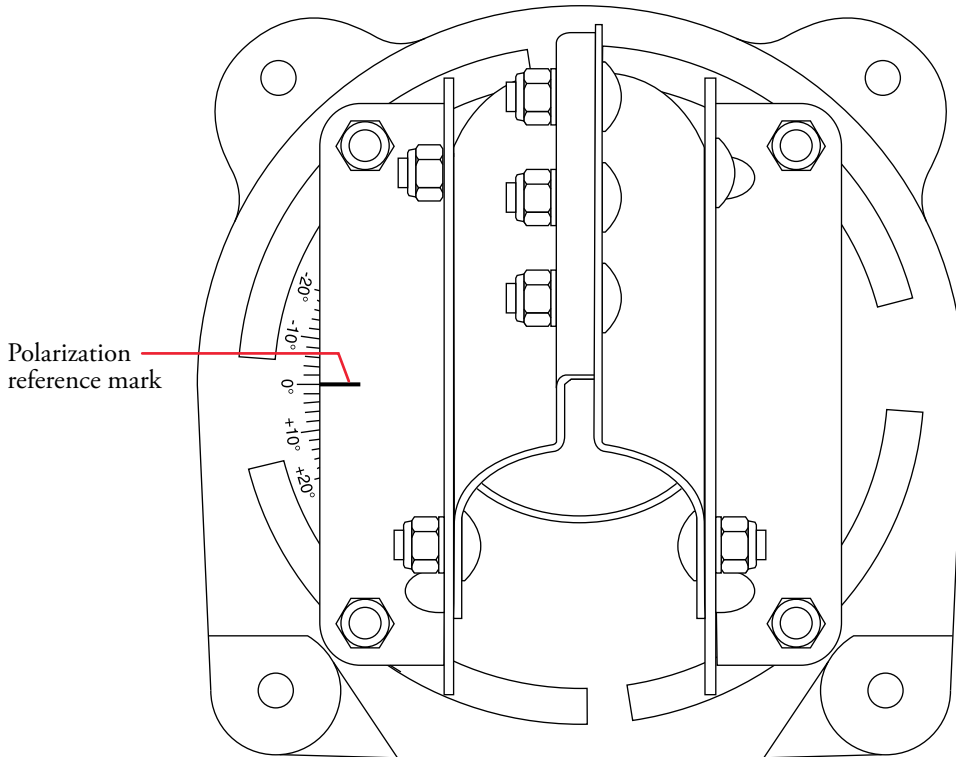

Figure 5-2. Polarization adjustment
2. Using the polarization value you recorded on page 18, rotate the antenna reflector until that polarization value on the polarization scale is aligned with the polarization reference mark (see figure 5-2). Tighten the polarization nuts.